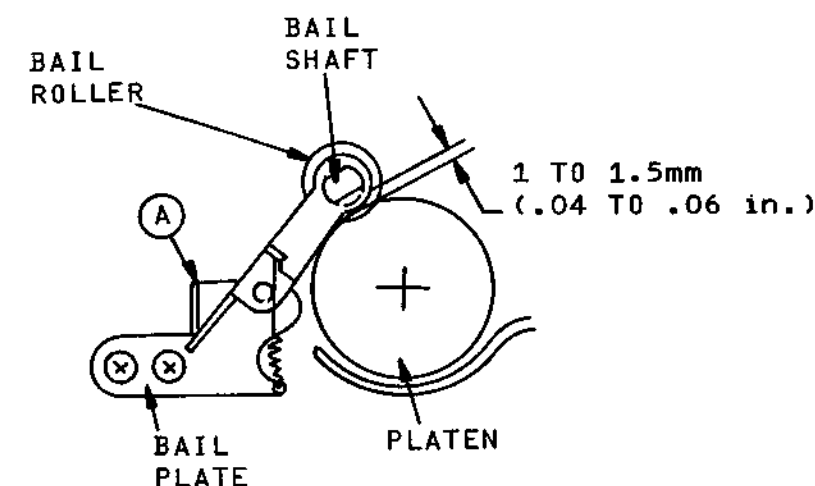

Figure 5-16 Pressure Bail Roller Adjustment
5.13 PRESSURE BAIL ROLLER ADJUSTMENT (Figure 5-16)
- a. Slide the bail rollers (Figure 5-16) until they are outside the rubber part of the platen.